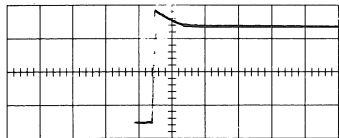

Fig. 7-4 Effect of "cathode interface" in V.A. 0.5 μ sec/cm.
7.1.3.3 Distributed Amplifier Tube Defects: If tube replacement in 7.1.3.2 does not eliminate changes in slope (Fig. 7-4 or 7-5) with line-voltage change, distributed amplifier tubes (6CB6's or 6DK6's) will require replacement.